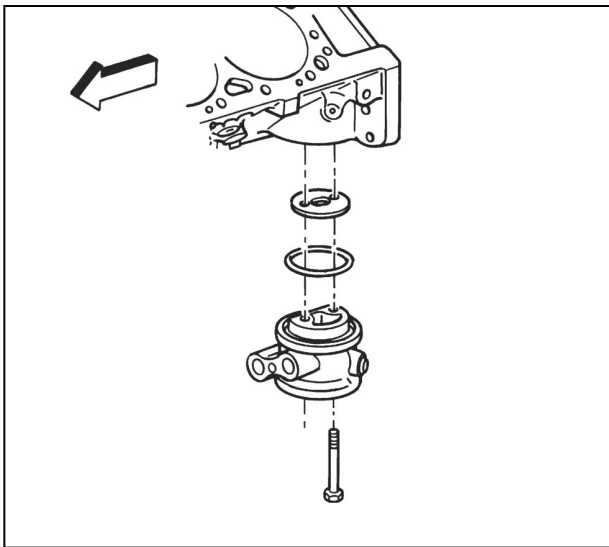

Figure 12-85 Oil Filter Adapter Installation With Oil Cooler (Typical)
8. Oil filter adapter bolts (figure 12-85).